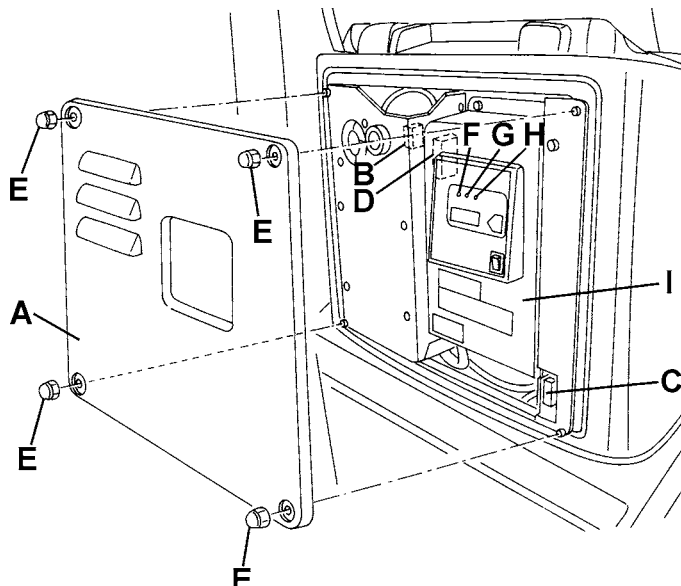

Figure 7
If the red warning light (F, Fig. 7) on the battery charger control panel stays on, the battery charger is charging the batteries.
1. Turn the ignition key (41) to "0".
2. Remove the nuts (E, Fig. 7), then remove the cover (A).